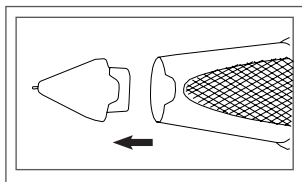

Fig. 1.07
1. When the tester is switched off, remove the magnetic tip by gently pulling it out, as shown in **Fig. 1.07**.